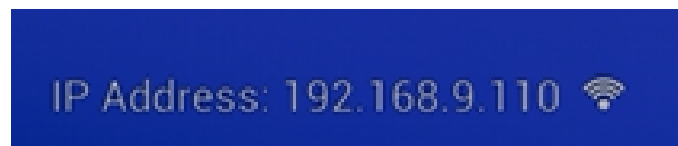

Figure 3-2 IP Address and Network Status
- Bottom left: display the terminal IPv4 address and network status, as Figure 3-2 shows.